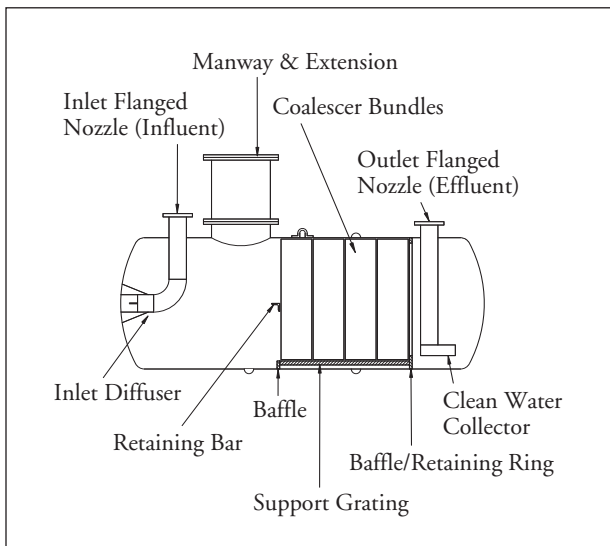
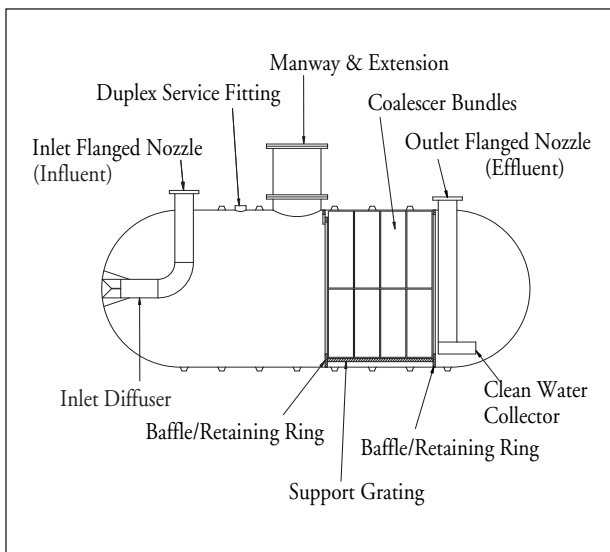
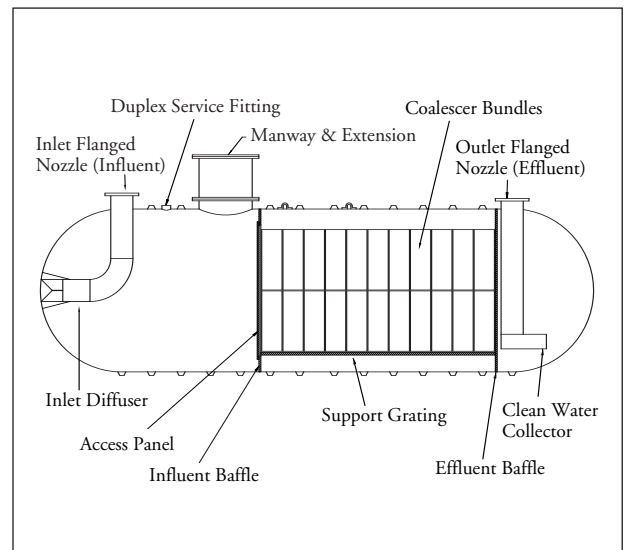

FIGURE 1-1
FIGURE 1-2
FIGURE 1-3
1.3.1. For terms related to the Xerxes OWS, see FIGURE 1-1 (for 4-foot-diameter OWS), FIGURE 1-2 (for 6-foot-diameter OWS) and FIGURE 1-3 (for 8-foot-diameter OWS and 10-foot-diameter OWS). These drawings are for purposes of terminology only.